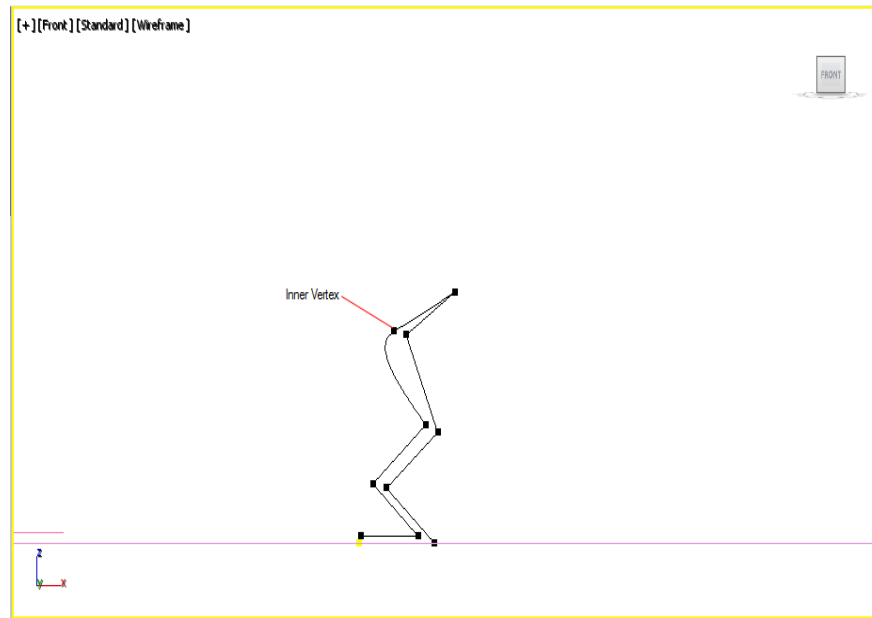

Figure 5-12 The bezier handles displayed at the vertex
10. Right-click on the inner vertex, refer to Figure 5-12; a quad menu is displayed. Choose **Bezier** from the upper-left quadrant of the quad menu; the spline is curved and the bezier handles are displayed, as shown in Figure 5-12.